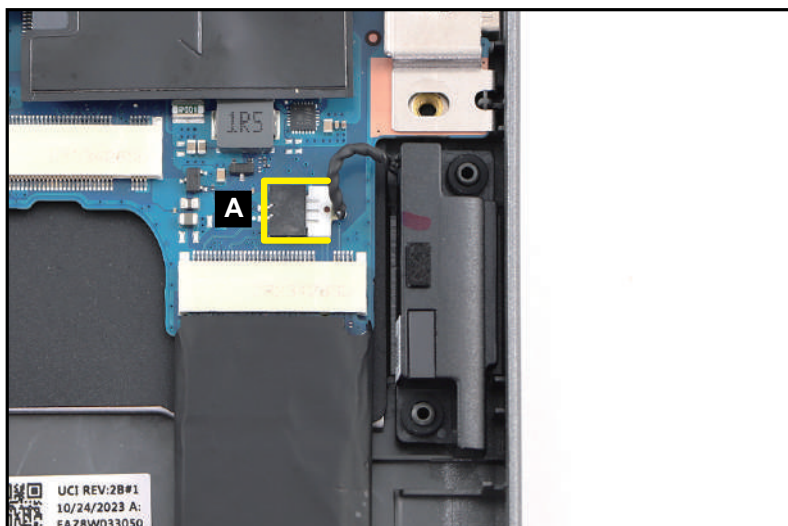

Figure 3-45. Left Speaker Removal
1. Disconnect the left speaker cable from the mainboard connector (A) (Figure 3-45).